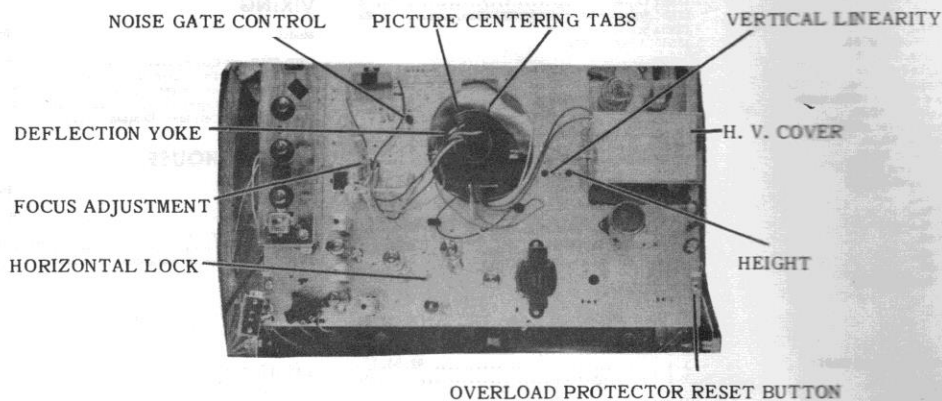

Fig. 2
2. Select the strongest TV station received. Adjust controls for normal operation. Turn Noise Gate Control fully to the left (counterclockwise). See figure 2 for adjustment locations.